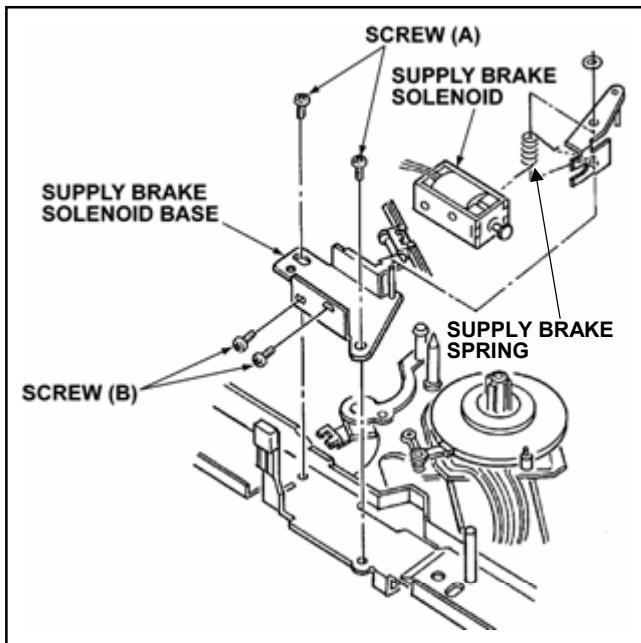

Figure 5-8-1
2. Unscrew the 2 screws (A) and remove the Supply Brake Solenoid Base Unit as shown in Figure 5-8-1.
3. Unscrew the 2 screws (B) and remove the supply Brake Solenoid from Supply Brake Solenoid Base Unit as shown in Figure 5-8-1.
Attach the Brake Arm Spring as shown in Figure 5-8-1.